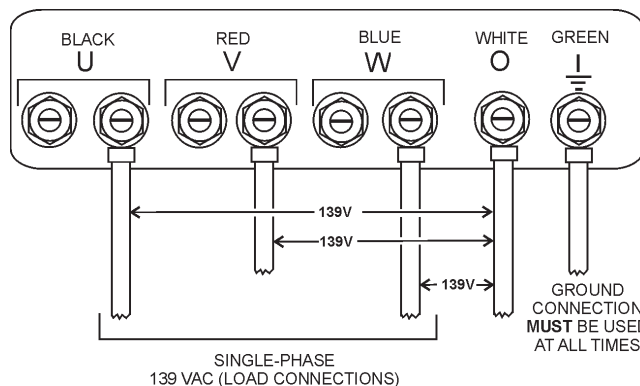

Figure 25. UVW Terminal Lugs
2. Connect the load wires to the UVW terminals as shown in Figure 25.